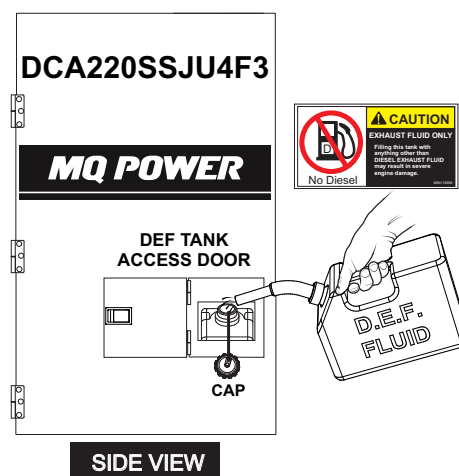

Figure 44. DEF Tank Filling (DCA220SSJU4F3)
3. For DCA220SSJU4F3 generators, open the **DEF access door** (Figure 44), remove filler cap, and fill with DEF fluid.